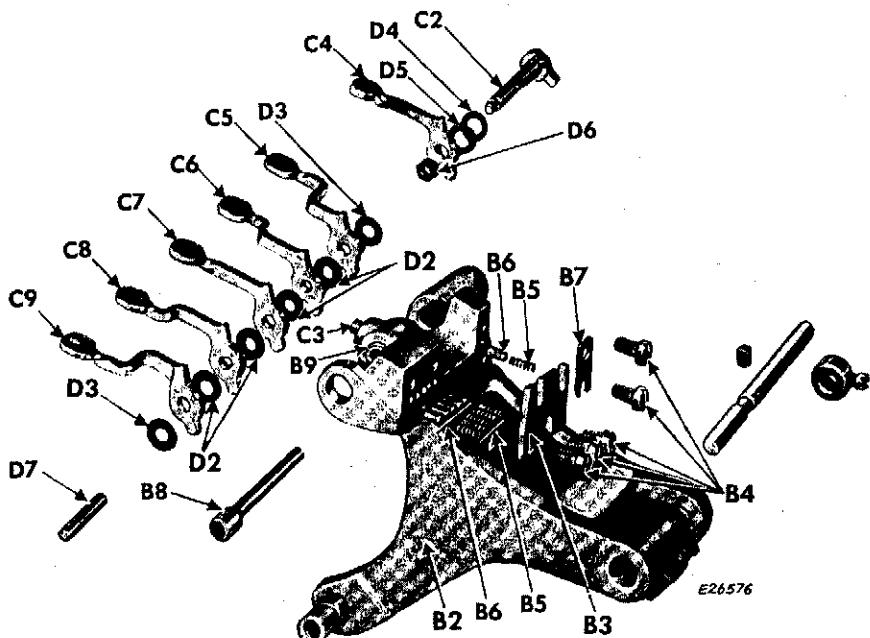

Fig. 252
2. Pre-assemble selector levers with washers on Guide Pin (Tool No. T4346) **D7**, in the order given in Fig. 252.
3. Place the pre-assembled disc selectors into the space in front of stud spring **B9**, Fig. 252.
8. Insert disc selector stud **C2** into follower frame, then mount spacing washer **D4** and friction washer **D5** on end of stud as illustrated in Fig. 252.